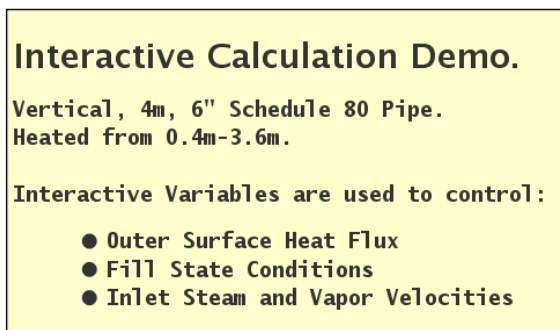

Figure 2.37. Text Annotation Example
- **Text** - The text displayed in the text annotation. Figure 2.37, “Text Annotation Example” is an example of a text annotation using the optional HTML tag support.